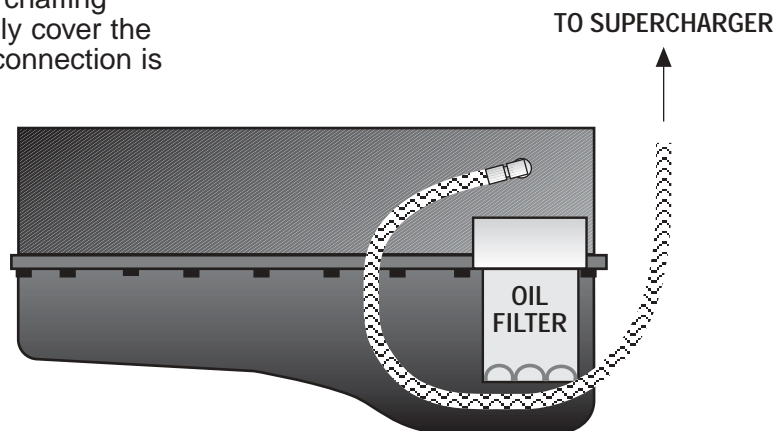

Fig. 2-a
- C. Connect the supplied feed line to the flare fitting and route it up to the front of the driver's side cylinder head. Secure the hose with tie-wraps away from exhaust heat, chaffing and/or sharp objects. Temporarily cover the open end from debris until the connection is made to the supercharger. (See Fig. 2-a.)